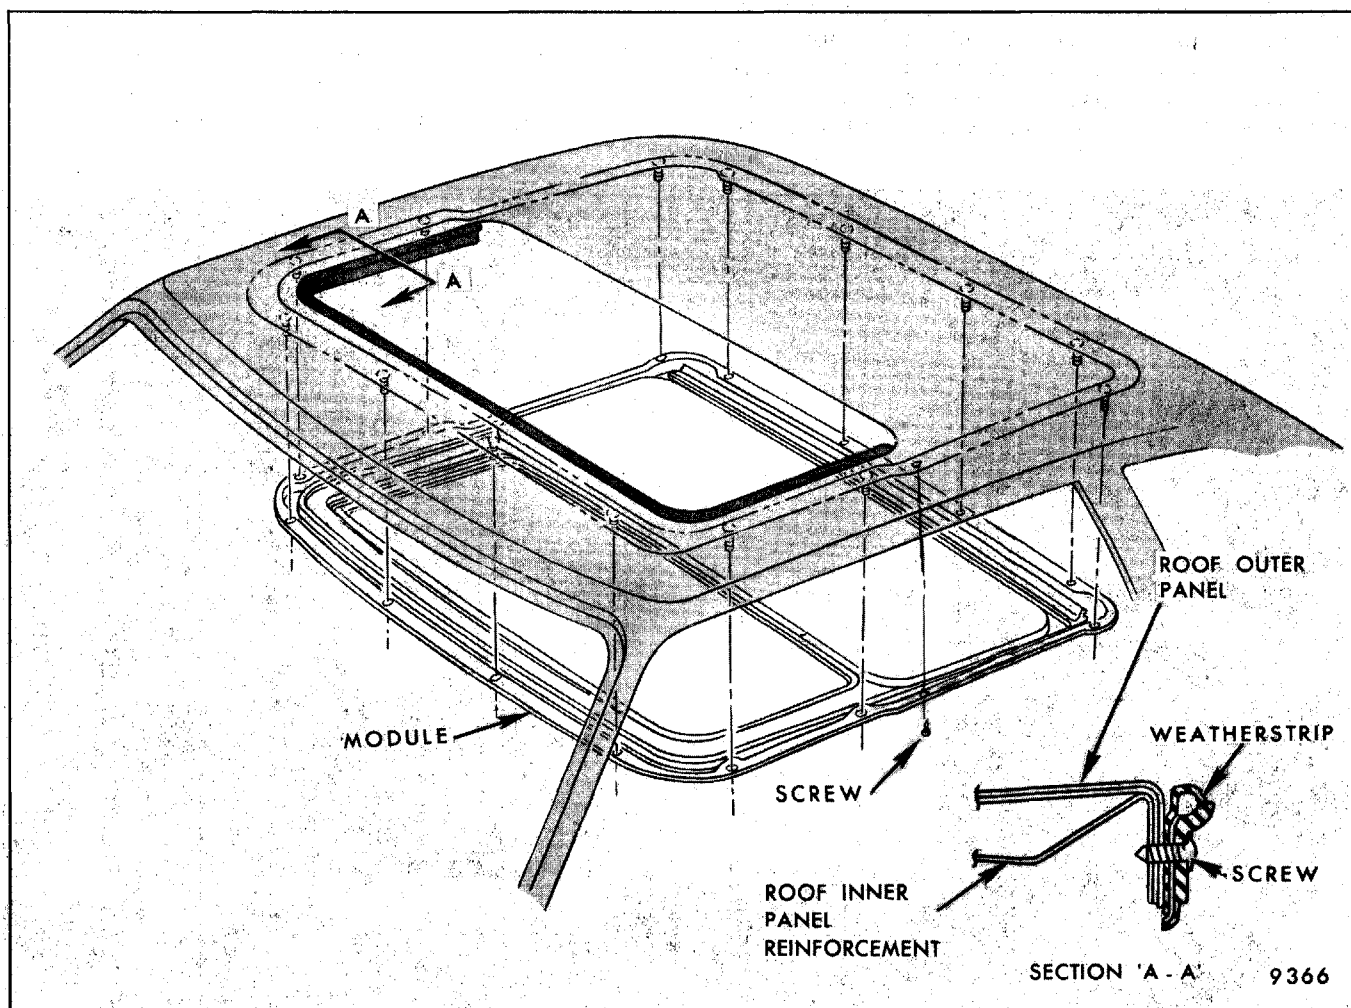

Fig. 8-69-Sun Roof Module (Complete Installation)
The sun roof housing assembly, complete with hardware, may be removed as follows (Fig. 8-69):
6. Support sun roof housing assembly and remove nuts and screws that retain housing to roof inner panel (Fig. 8-69). Lower and remove sun roof housing.